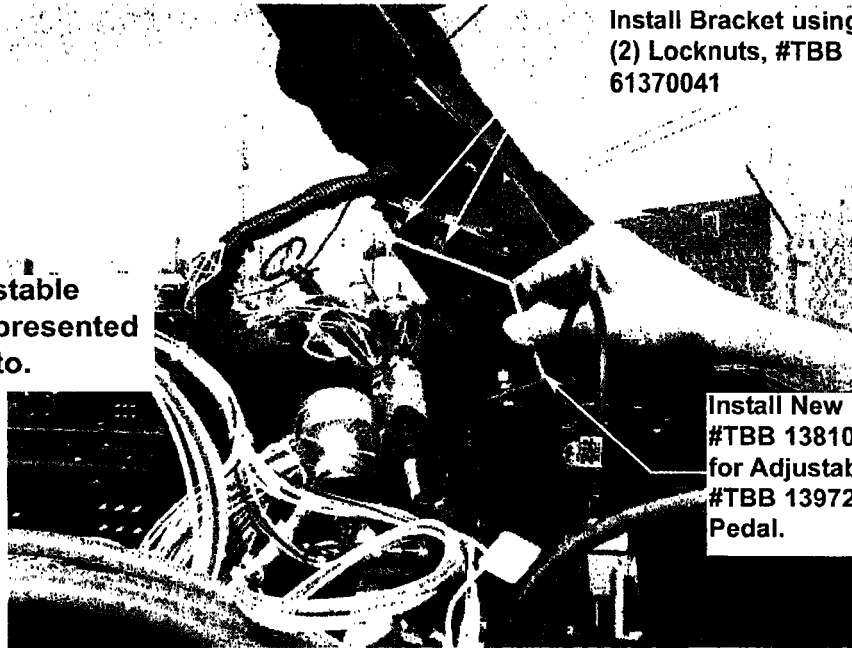

Figure 8
8. Remove existing nuts on column. **Figure 8**
9. Attach bracket with two (2) new Locknut, #TBB 61370041.